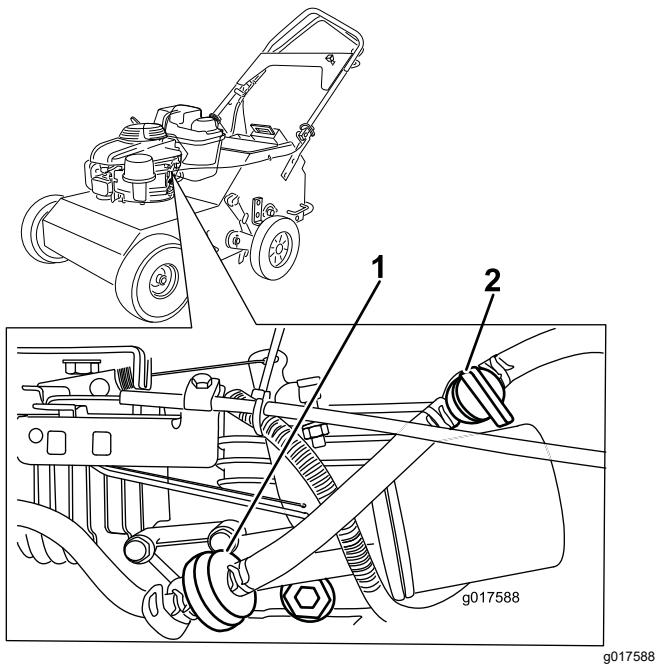

Figure 29
3. Close the fuel valve (Figure 29).
4. Clamp off the fuel line on either side of the fuel filter (Figure 29) to prevent fuel from leaking out when you remove the filter.
5. Squeeze the ends of the hose clamps together and slide them away from the filter (Figure 29).
7. Install a new filter and move the hose clamps close to the filter (Figure 29).